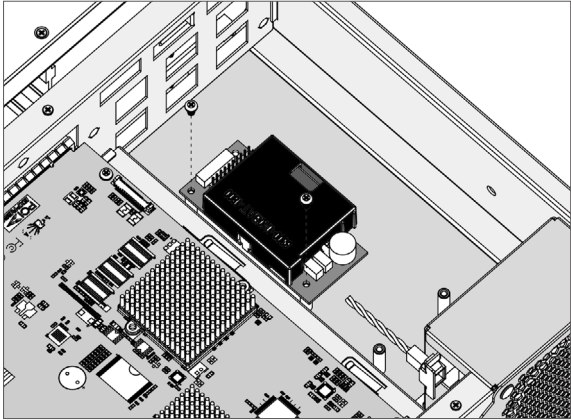

Figure C-3, Secure the Battery Module
2. After removing the cover, then secure the battery pack module (ARC-6120-BAT121-7, reference NO.1 in Figure C-1) in the bottom of the enclosure (for ARC-7208/ARC-7212), as shown in Figure C-3.